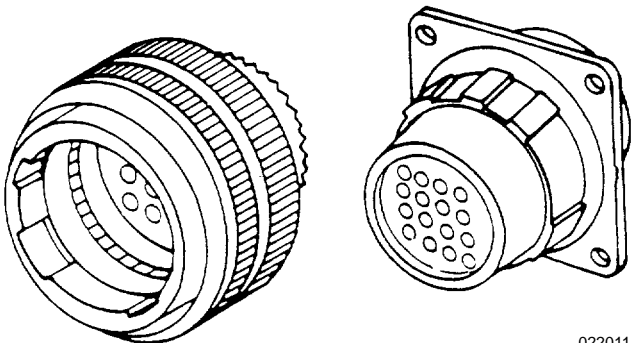

Figure 11. Typical Breech Coupling.
18. **Breech Lock.** The breech lock system (Figure 11) is similar to the bayonet system except solid lands and grooves are utilized instead of bayonets. Coupling requires a 90 degree clockwise twist to couple.